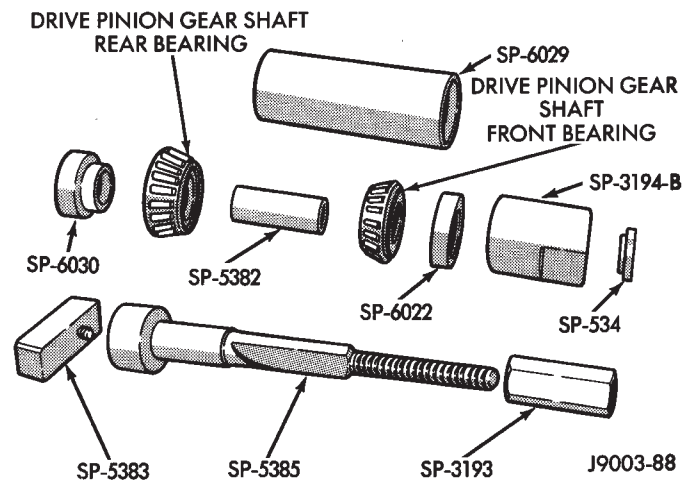

Fig. 20 Axle Adjustment Tools—8 1/4
(1) Use pinion gear adjustment gauge set 6575 (Fig. 20) and continue the assembly: